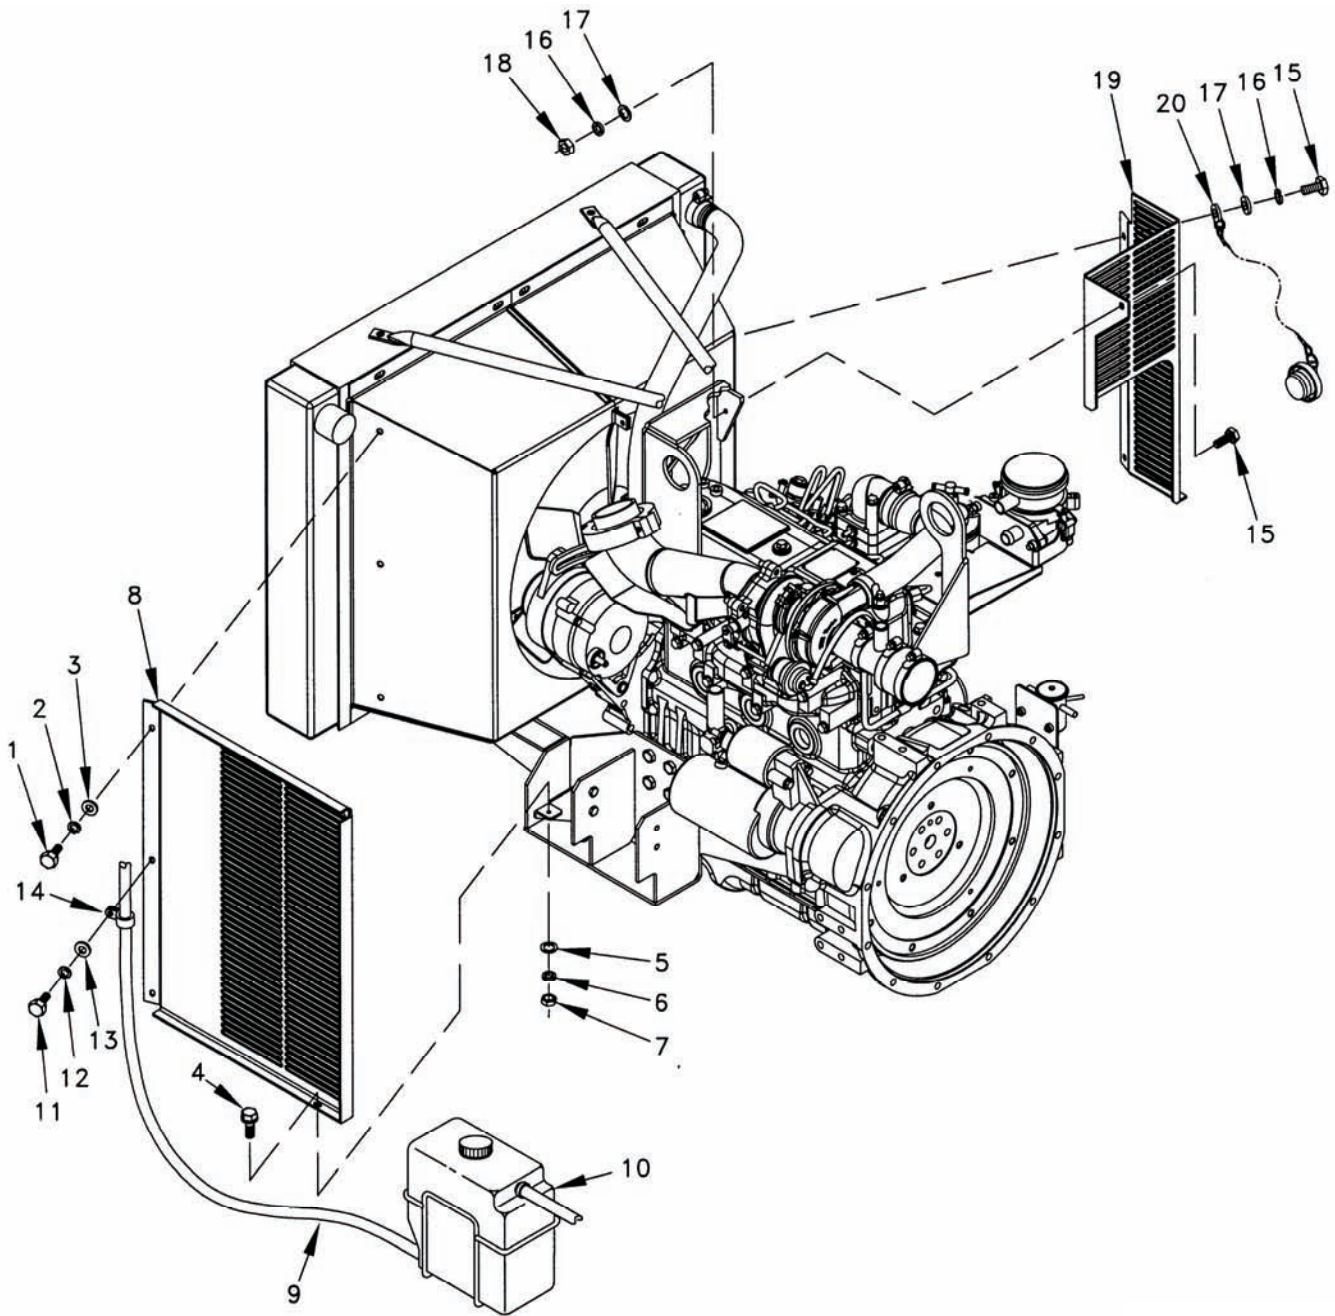

Figure 5-41. Fan Guard.
- a. Install left fan guard (8, Figure 5-41) (Item 106, Table 5-1) using two screws (1) (Item 111, Table 5-1), lock washers (2) (Item 112, Table 5-1), flat washers (3) (Item 113, Table 5-1), screw (4) (Item 117, Table 5-1), flat washer (5) (Item 119, Table 5-1), lock washer (6) (Item 120, Table 5-1), and nut (7) (Item 118, Table 5-1).
- b. Locate hose (9) connected to bottom of overflow bottle (10), route along left fan guard (8), and secure with screw (11) (Item 111, Table 5-1), lock washer (12) (Item 112, Table 5-1), flat washer (13) (Item 113, Table 5-1), and clamp (14) (Item 78, Table 5-1). Hose eventually goes to overflow tube on coolant filler hose and panel assembly.
- c. Install right fan guard (19) (Item 107, Table 5-1) and chain (20) from oil fill cap using four screws (15) (Item 111, Table 5-1), lock washers (16) (Item 112, Table 5-1), flat washers (17) (Item 113, Table 5-1), and nut (18) (Item 118, Table 5-1).